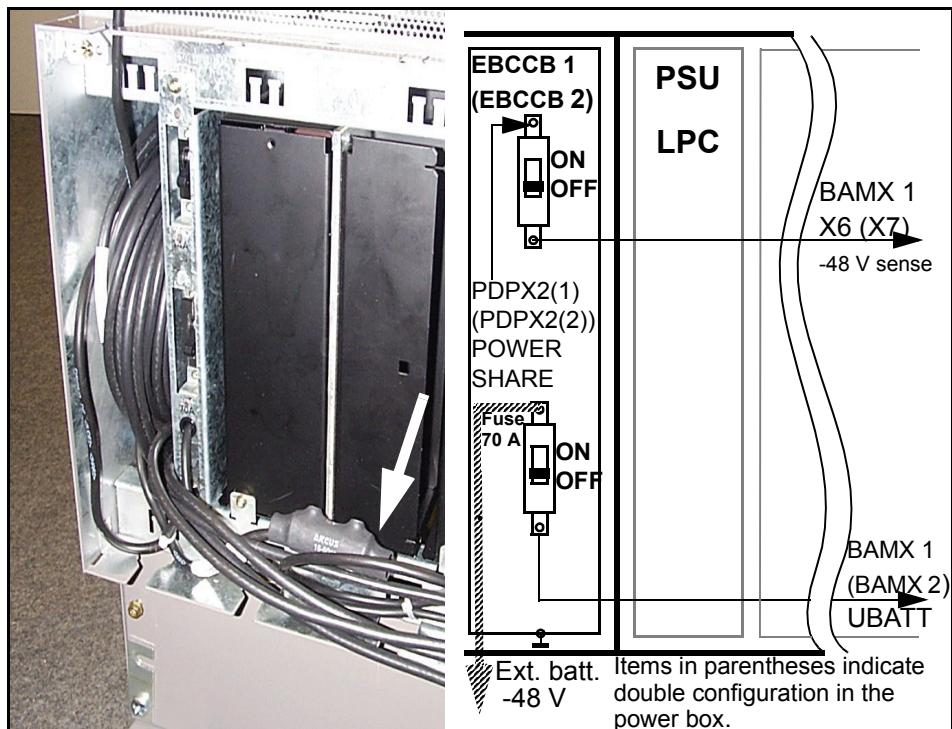

Figure 23 External battery connection to power box (back view)
2. Attach the -48 V supply from the external battery to the cable drawn from the system (see Figure 23).